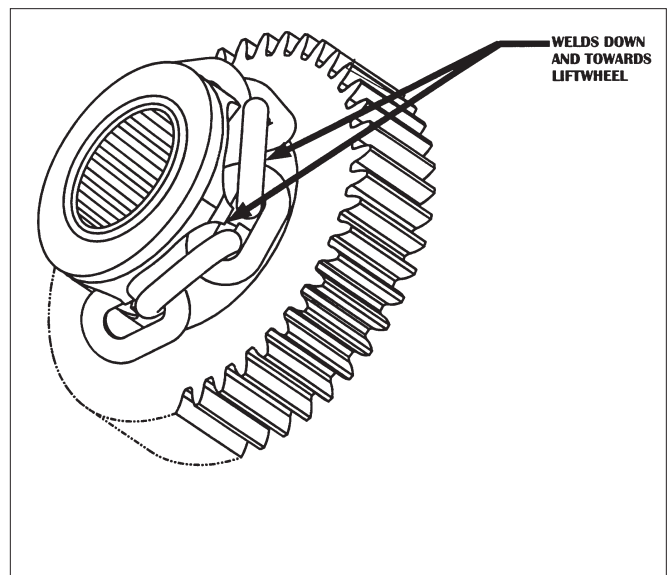

Figure 22: Chaining Hoist
3. Feed a short length of soft wire through the opening in the chain guide/stripper until it comes out of the hoist. Attach "new" chain to end of the wire which is in the center of the hoist. Position the chain so that the welds will be down and towards the liftwheel as shown above in Figure 22.